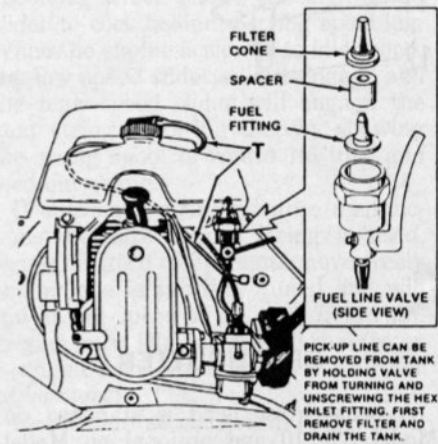

Fig. HL30-4—Drawing showing location of air pressure tube (T) to fuel tank. Fuel filter may be removed and cleaned.
Fig. HL30-3—Typical exploded view of blower on all models. Fuel pickup assembly (6) is used on models with a diaphragm-type carburetor. Fuel filter/valve (9), tube (7), pad (8) and filters (10A) are used on models with a float-type carburetor. Refer to Fig. HL30-4 for drawing of filter/valve (9).
Fuel in the fuel tank of models equipped with a float-type carburetor is pressurized by air directed from the blower volute to the fuel tank cap through pressure tube (T - Fig. HL30-4). Inadequate fuel supply may be due to a disconnected or faulty pressure tube, faulty check valve or dirty filter in fuel tank cap, or obstructed fuel filter (Fig. HL30-4). The fuel filter may be cleaned in a nonflammable solvent, but replacement is recommended.